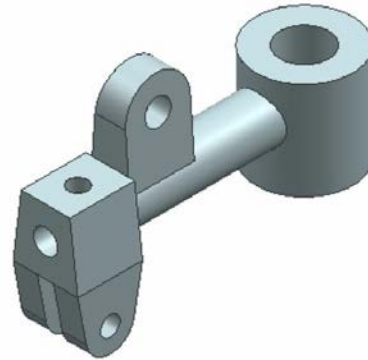

Figure 13-127 Resultant model
3. Choose the **OK** button to accept the changes. The resultant model is displayed, as shown in Figure 13-127.